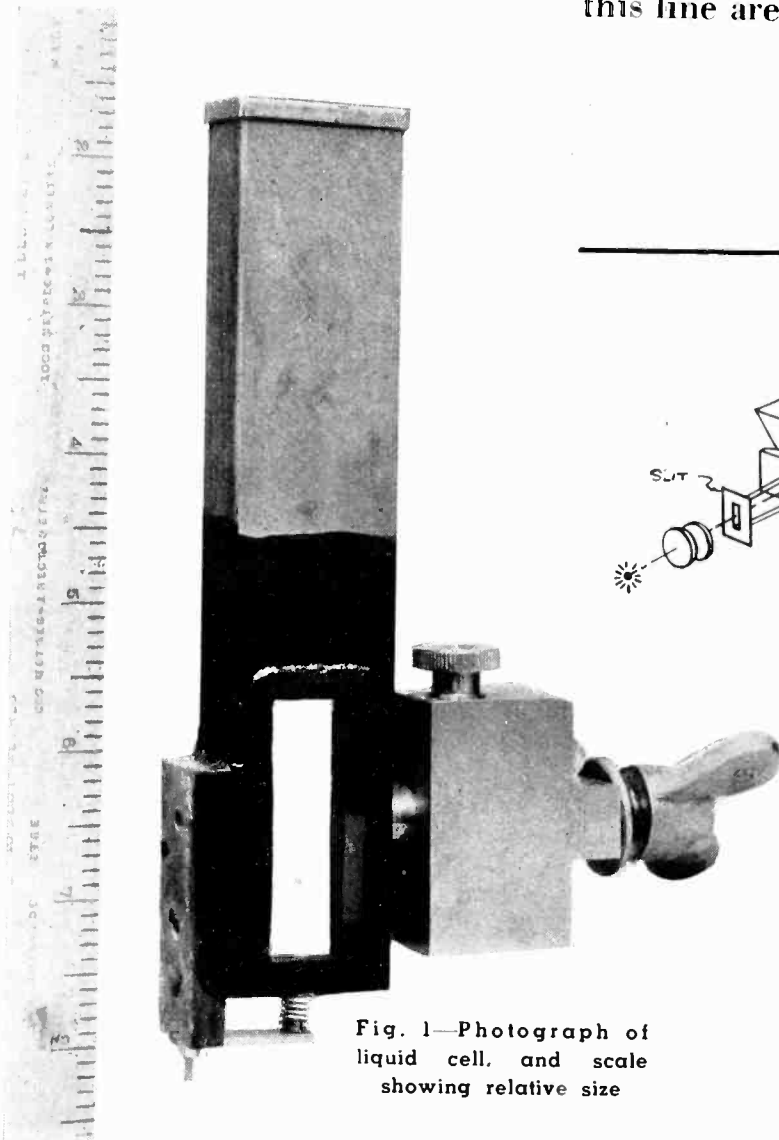

Fig. 1—Photograph of liquid cell, and scale showing relative size
In addition, a buzzer may be connected to operate on any unbalance without regard for polarity. If the fuse blows or power supply fails the buzzer will sound and both lamps will light. Perhaps most important of all, the equipment failure alarm monitors itself in the same way in which it monitors the amplifier in question. Only failure of the type 6H6 tube heater, or sudden and total failure of two of the three amplifiers (Fig. 1) can occur without energizing the signalling circuit. This latter possibility is certainly negligible. The 6H6 possibility suggests an occasional check during maintenance rounds to see that this tube is operating, or a relay and pilot lamp may be placed in the heater circuit.
Referring again to Fig. 1, it will be seen that across the input of the amplifier to be monitored (1) is bridged another amplifier (2) of
The supersonic light control consists of a cell having two opposite transparent walls, filled with a transparent liquid. A piezoelectric quartz crystal having a natural frequency between 10 and 20 Mc is arranged in such a way that it can transmit its vibrations to the liquid of the cell creating travelling waves therein. A photograph of such a cell is shown in Fig. 1, while the cell system is shown in Fig. 2. The crystal is excited by electrical oscilla-